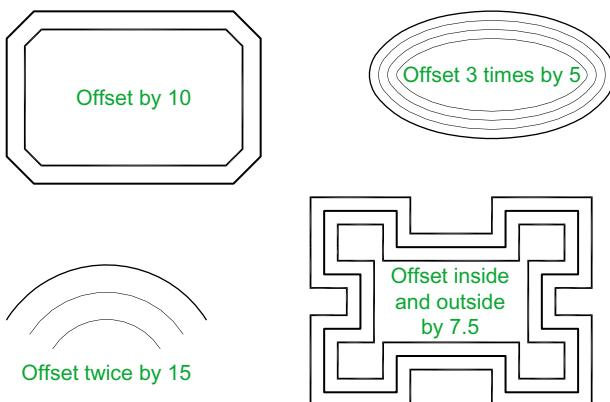

Fig. 5.14 Examples – Offset
### Examples – Offset (Fig. 5.14)
3. Repeat for drawings 2, 3 and 4 in Fig. 5.12 as shown in Fig. 5.14.